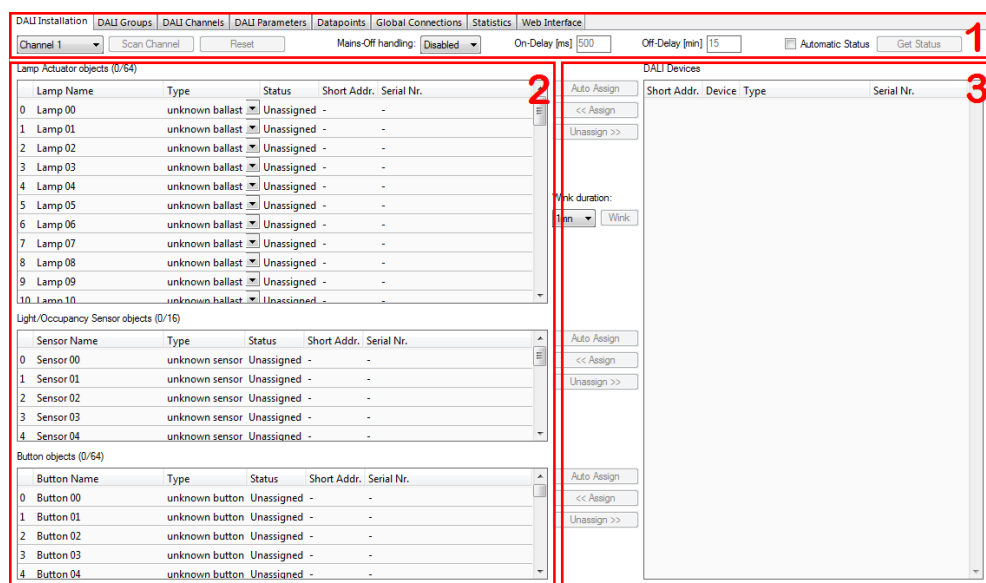
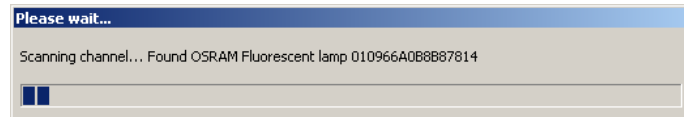

Figure 191: DALI Installation tab.
Figure 192: DALI channel scan progress.
The DALI Installation tab is shown in Figure 191. It is used to scan a DALI channel and assign DALI devices to Lamp Actuator, Sensor objects, and Button objects. The dialog is divided into three sections:
- The channel selection and functions section (number 1 in Figure 191).
- The DALI network database with the device assignment (number 2 in Figure 191).
- The DALI network scan results (number 3 in Figure 191).
- The **Scan Channel** button starts a scan of the DALI channel. When pressing the button a window showing the scan progress will be shown (see Figure 192). After the scan the devices found will be listed in the DALI network scan results section (number 3 in Figure 191) of the DALI Installation tab.